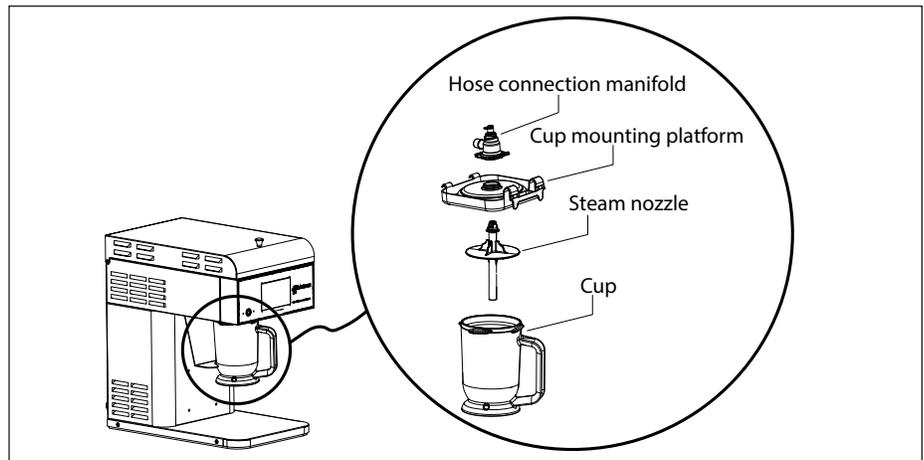

Figure 5. Components
3. Wearing heat resistant gloves, remove the components highlighted in Figure 5.
5. Inspect the Generator Manifold and Generator (Figure 5). If mineral deposits have formed, place a flat blade screwdriver into openings. Use a twisting motion to scrape openings clean.